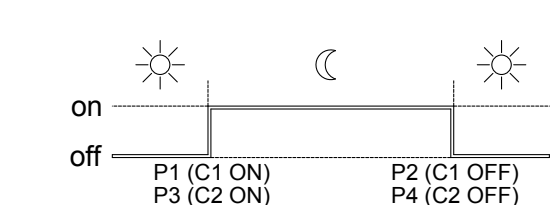

Figure 4
- Programmes: C1 to C2 on at sunset/ C1 and C2 off at sunrise (see Fig. 4)